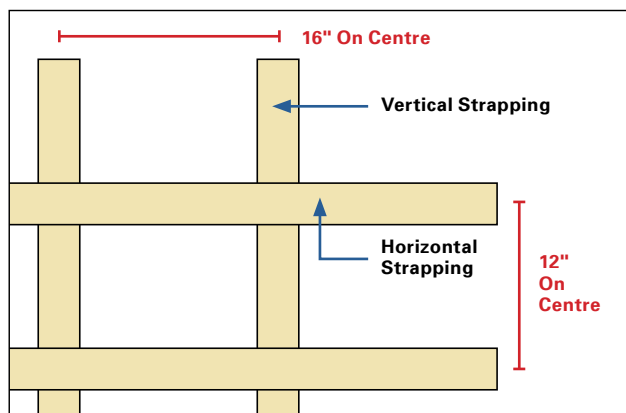

Fig. 8
- Next install the horizontal strapping on top of the vertical strapping at **12" on center**. (See Figure 8)